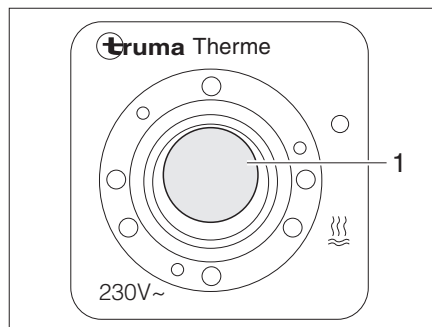

Fig. 123 Operating switch for water heater
The electrical mode of operation is activated using the operating switch (Fig. 123). The indicator lamp (Fig. 123,1) on the switch must light up.
- Switch on the operating switch (Fig. 123). Indicator lamp (Fig. 123,1) on the switch lights up.
- Switch off the operating switch (Fig. 123). The indicator lamp (Fig. 123,1) on the switch goes off.
- Switch off the operating switch (Fig. 123). The indicator lamp (Fig. 123,1) in the switch is not on.